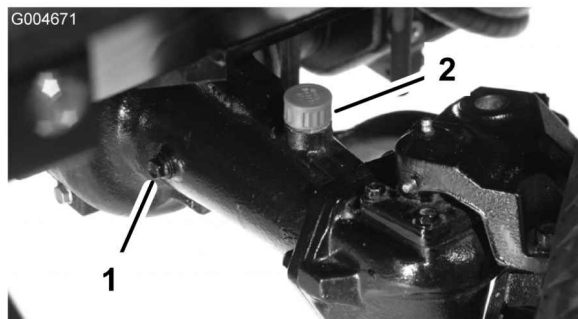

Figure 12
2. Remove a check plug from one end of the axle (Figure 12) and make sure that the lubricant is up to the bottom of the hole. If the level is low, remove the fill plug (Figure 12) and add enough lubricant to bring the level up to the bottom of the check plug holes.